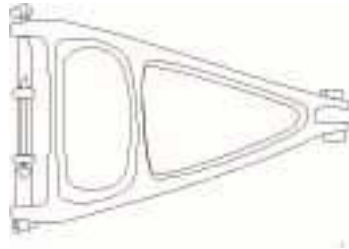

Figure 5-15. A-Frame Fast Rope Attachment Bar
e. The CH-53E A-Frame Fast Rope Attachment Bar is manufactured by the MALS and maintained by the squadron. The bar is installed by the aircrew in approximately 1/2 hour. The bar consists of: (1) 21" stainless steel round stock, 1" in diameter, and threaded on each end, (2) 6 1/2" mono sleeves, (1) 2 1/4" mono sleeves, (2) stainless steel peanut-link brackets, and (1) 1" Q/D pin) (Figure 5-15) When installed, the bar replaces the two bolts used to attach the A-frame. However, the A-frame may also be completely removed.